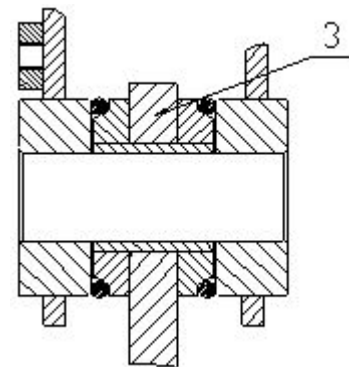

Fig. 3
Remove the old O-ring, install a new O-ring (4, Fig. 3), and verify that the O-ring groove on the boom (3) has been cleaned.